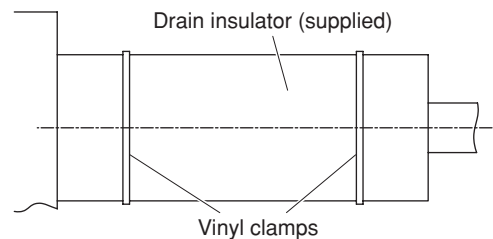

Fig. 3-64
- (2) After connecting the drain piping securely, wrap the supplied packing and drain pipe insulator around the pipe, then secure it with the supplied vinyl clamps. (Fig. 3-64)